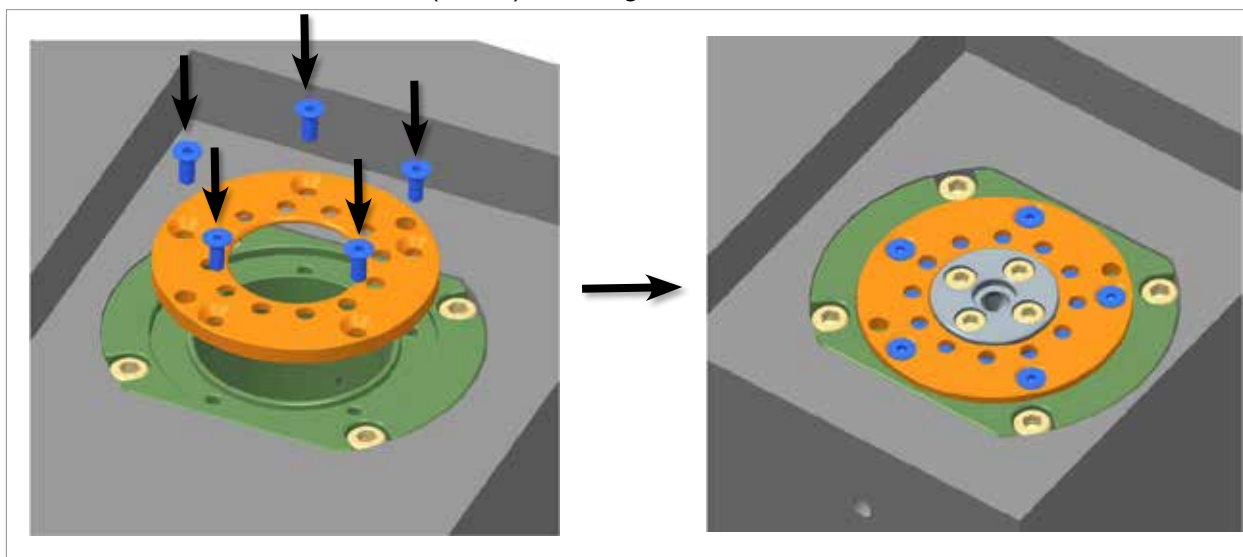

Figure 11-21 Attach locating ring to outer body
2. Attach the locating ring to the outer body using flat head screws. Torque to 2.8 Nm (2 ft-lb). See Figure 11-21.